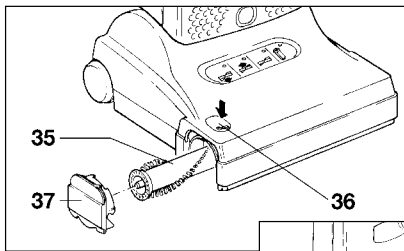

Figure 10 (X4)
Changing the Brush Roller(s) - Figure 10 (X4), Figure 10a (X5)
The sealing strip (39) is located just behind the brush roller opening. The sealing strip seals the power head to hard floors to prevent kick-back of debris while vacuuming. To replace a worn sealing strip, push the release button, remove the side plate (36 and 37 in figure 10 & 10a) and slide old strip out. Insert the new strip into the slot and slide into place.